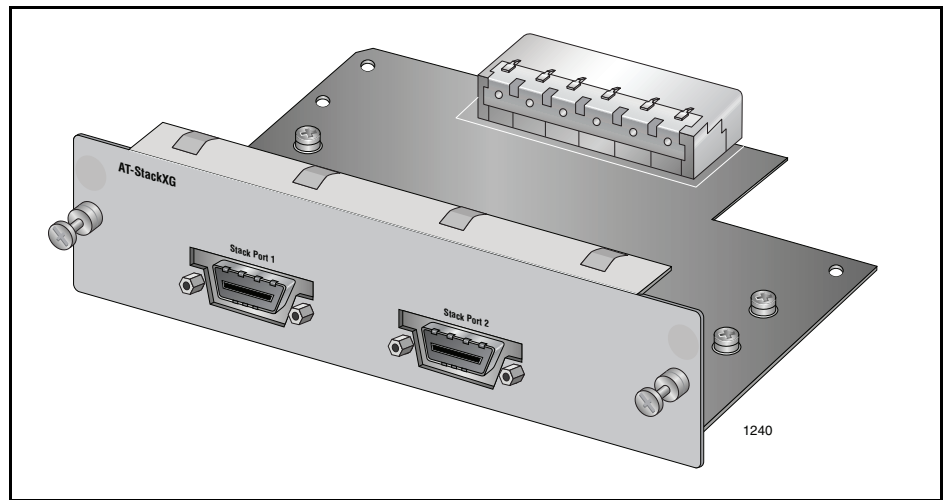

Figure 56. AT-StackXG Stacking Module
- ❑ The AT-StackXG, shown in Figure 56, has two full-duplex, 12 Gbps stacking ports.